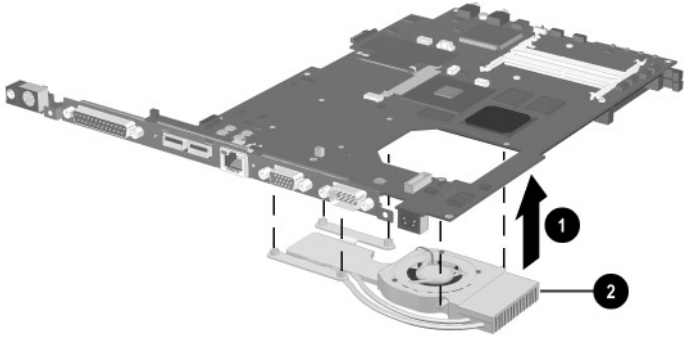

Figure 5-33. Removing the Heat Sink
7. Lift the system board straight up ❶. The heat sink ❷ will remain resting on the work surface (Figure 5-33).